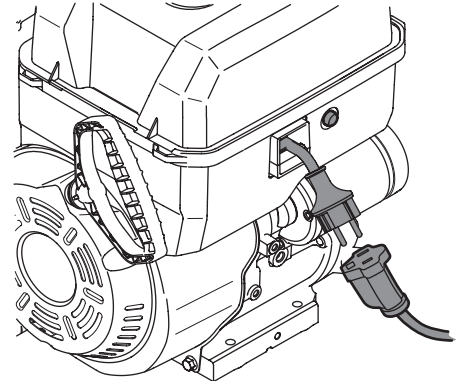

Figure 3-4
**NOTES:** When connecting power cord always connect power cord to switch box on engine first; then into outlet. See Figure 3-4.